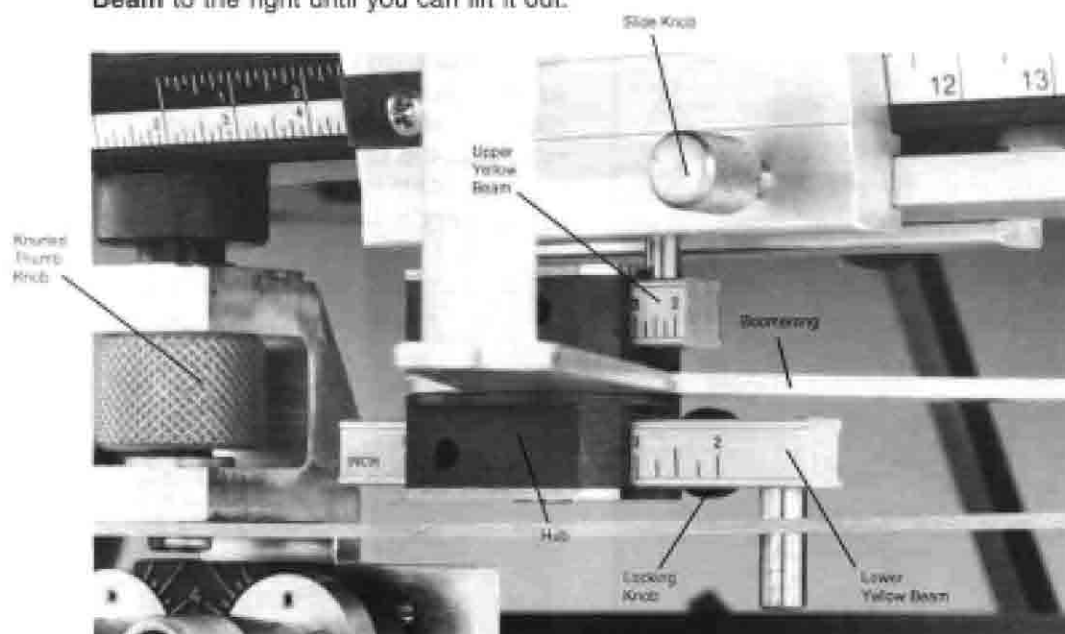

Figure 9
- Set the off-set on the **Upper Yellow Beam** by loosening the **Slide Knob** (to the front) and sliding the **Upper Yellow Beam** until it reads 3" [70mm] to the right of the hub. Tighten the **Slide Knob**. See Figure 9.
- Set the off-set on the **Lower Yellow Beam** by loosening its **Locking Knob** (to the rear, under the **Boomerang**) and sliding the **Lower Yellow Beam** until it reads 3" [70mm] to the right of the hub. Tighten the **Locking Knob**. See Figure 9.